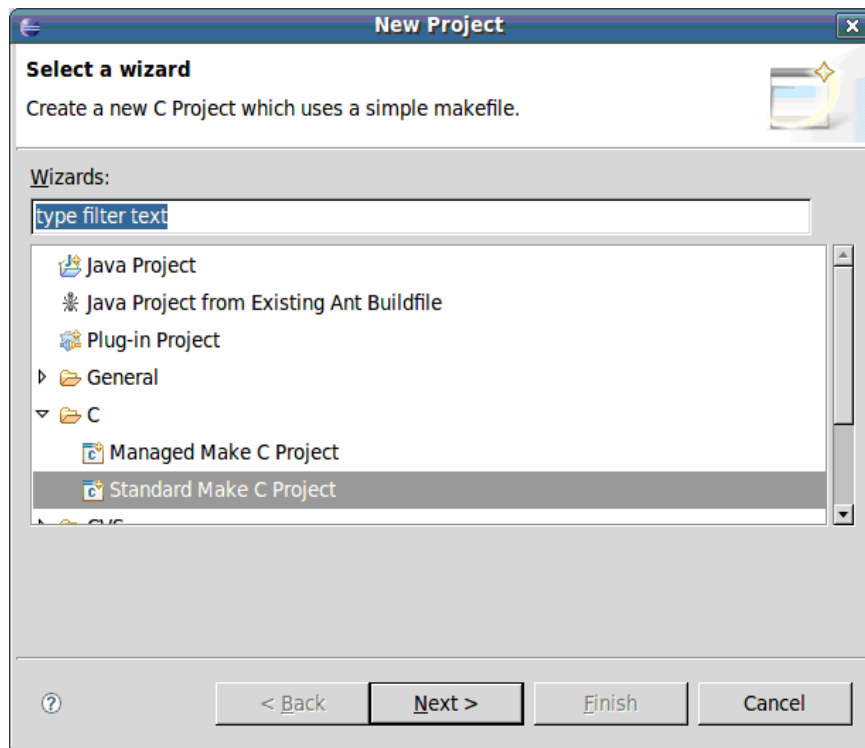

Figure 1. Eclipse IDE New Project Wizard
3. In the New Project wizard, select C > Standard Make C Project. (See Figure 1)
Figure 1 shows the new project wizard of the Eclipse IDE.